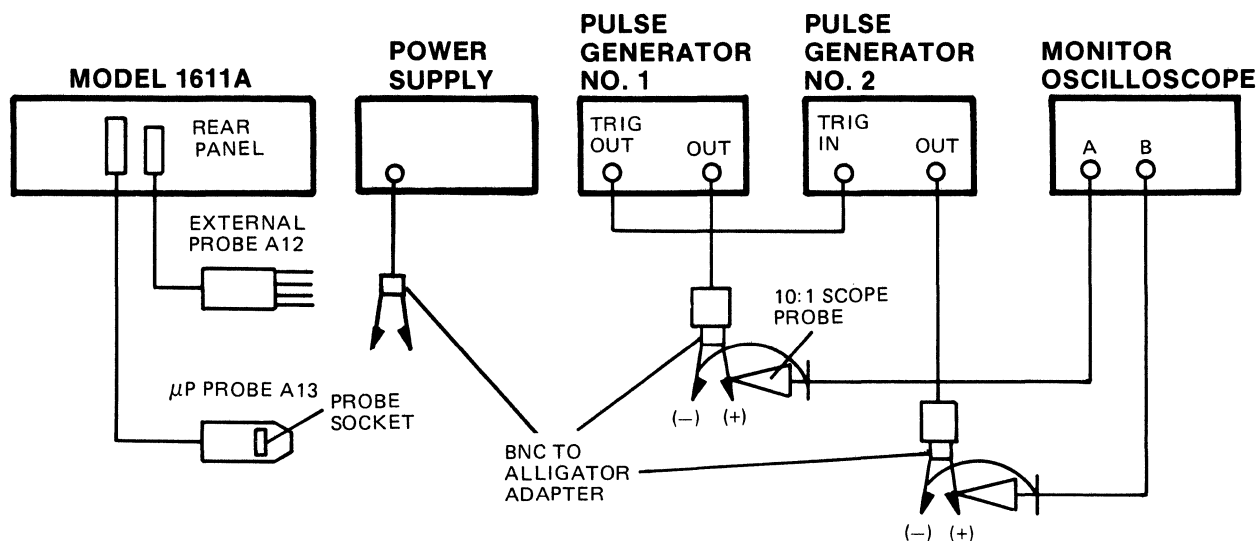

Figure 4-8. Sync Test Setup
- Connect test equipment as shown in figure 4-8.